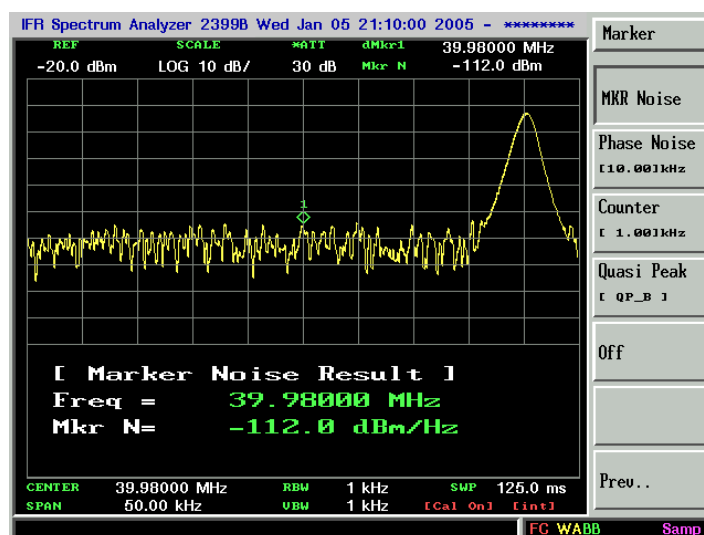

Figure 2-21. Activating the Noise Marker function
5. Activate the noise marker by pressing **[MKR]**, *More...*, *Function...*, *MKR Noise*. Note that the display detection has changed to sample, the marker floats between the maximum and the minimum of the noise. The marker readout is in dBm or dBm per bandwidth. See Figure 2-21. For noise power in a different bandwidth, add $10 \times \log(\text{BW})$. For example, for noise power in a 1 kHz bandwidth, add $10 \times \log(1000)$ or 30dB to the noise marker value.